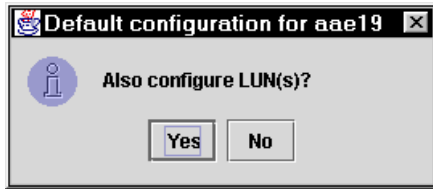

Figure 4-5 FAST MSJ Automatic LUN configuration
- The configuration of the host adapters is corrected automatically, so that the first adapter is set to *visible* and the second to *hidden* for the operating system for all attached subsystems. It is also possible to configure the LUNs automatically (Figure 4-5). This leads to a configuration where all LUNs are enabled and the first adapter is used as the preferred path.
If you chose to automatically configure your LUNs (Figure 4-5), all LUNs use the first adapter as the preferred path; the other adapter is failover only.